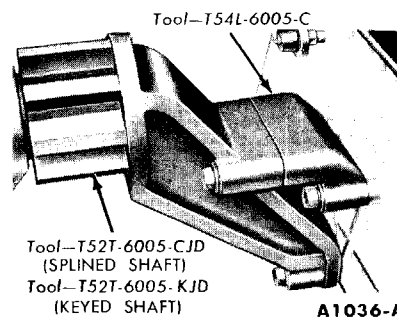

FIG. 9—Engine Mount
15. Attach the engine lifting hook (Fig. 8). Raise the engine slightly, then carefully pull it from the transmission. Lift the engine out of the chassis, then install it on a work stand (Fig. 9).